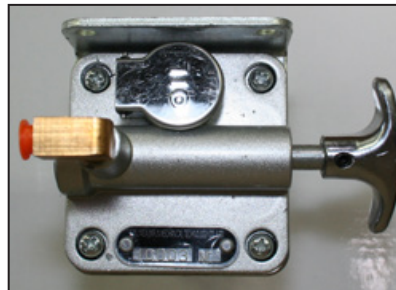

Figure 2.22
1. Remove four bracket screws shown in **Figure 2.22**.